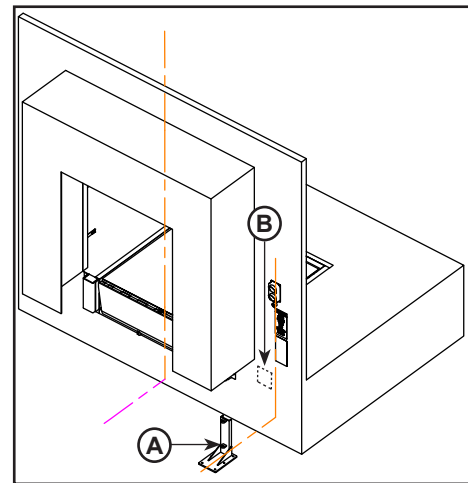

Figure 21
1. Position center of mounting post **(A)** at the distance shown on the site survey which is measured from the center of the dock leveler and also from the building face. See **figure 21**.